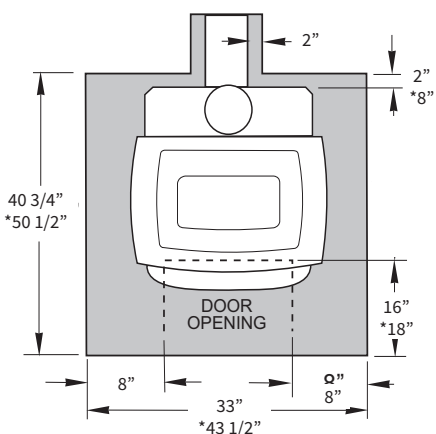

Figure 71. Minimum Hearth Dimensions. * Denotes requirement for Canada.
- In a rear vent installation, floor protection must also extend under the stove pipe a minimum of 2" beyond either side. See figure 71.